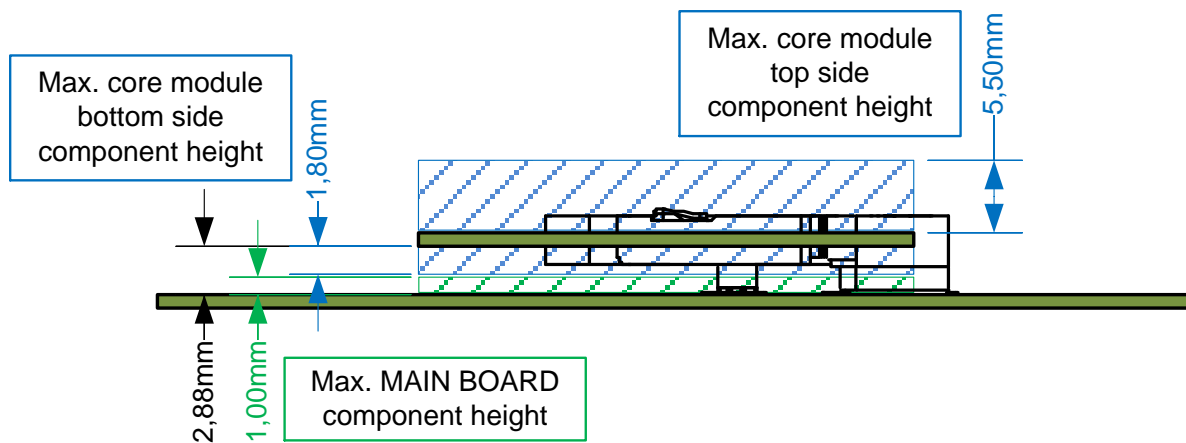

Figure 10: Maximum component heights
- Figure 10 shows an example with 5,2mm SODIMM-200 socket height.